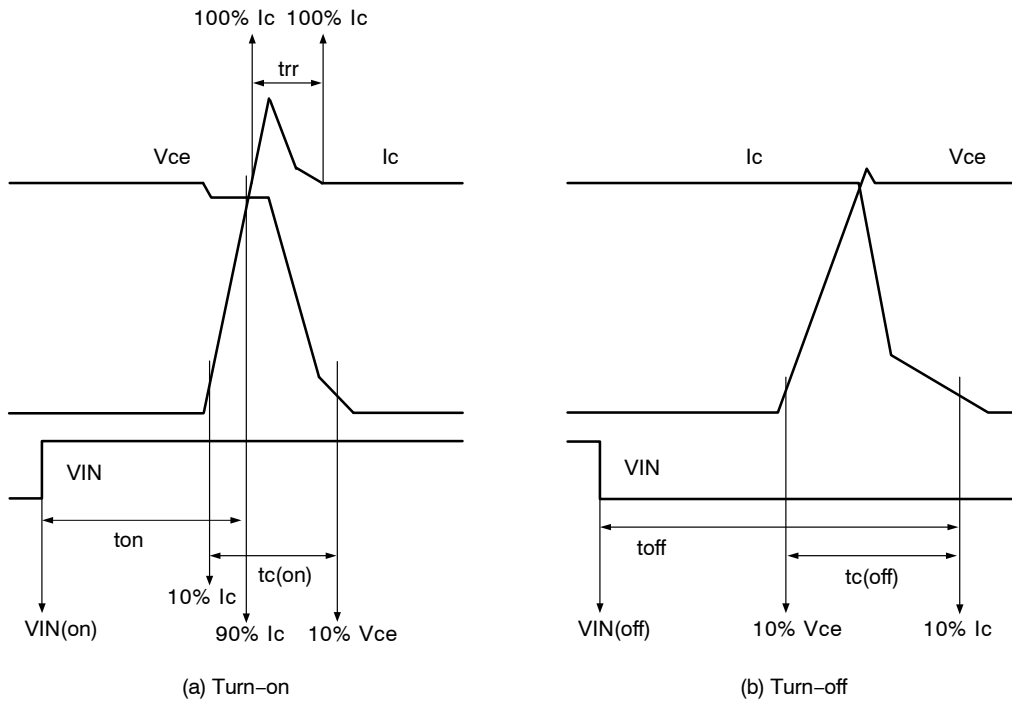

Figure 3. Switching Time Definitions
6. t_{ON} and t_{OFF} include the propagation delay time of the internal drive IC. t_{C(ON)} and t_{C(OFF)} are the switching time of IGBT itself under the given gate driving condition internally. For the detailed information, please see Figure 3.